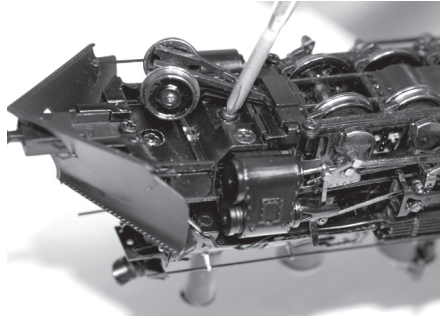

Figure 10 - Remove the Phillips head screw under the pony truck
3. Remove the center screw located just under the pony truck frame (Figure 10).